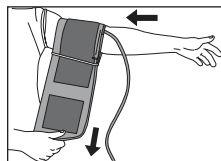

Fig. 3
2. Slide the cuff cylinder onto your left arm and align the artery mark over the brachial artery on the inside of your arm, Fig 3.